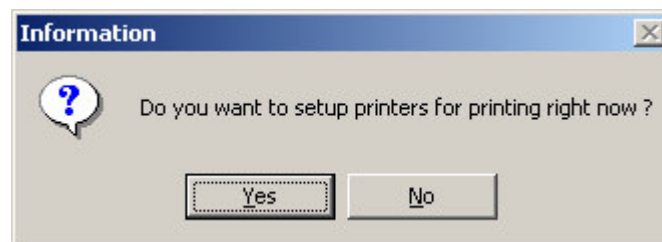

Figure 4-16 Add a Printer
1. You can reach this setup procedure by answering Yes to the previous Figure 4-16 Information. Or open NETGEAR Print Server group and run NETGEAR Add Printer Wizard.